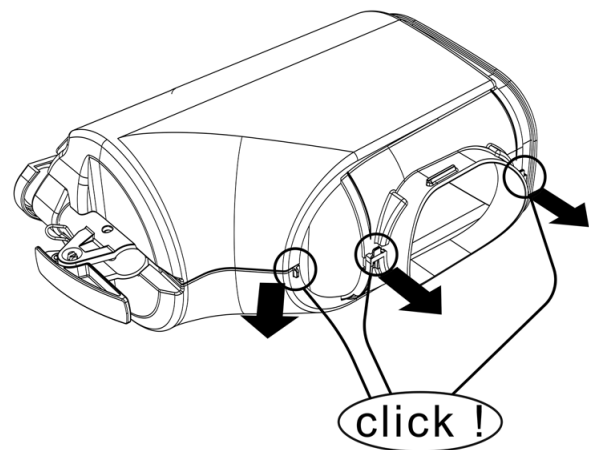

figure 4
- 1** Click open the two parts. (see figure 4).